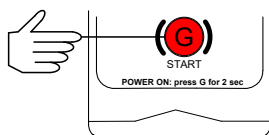

Figure 3
1. Press G and hold it for two seconds (Fig. 3);